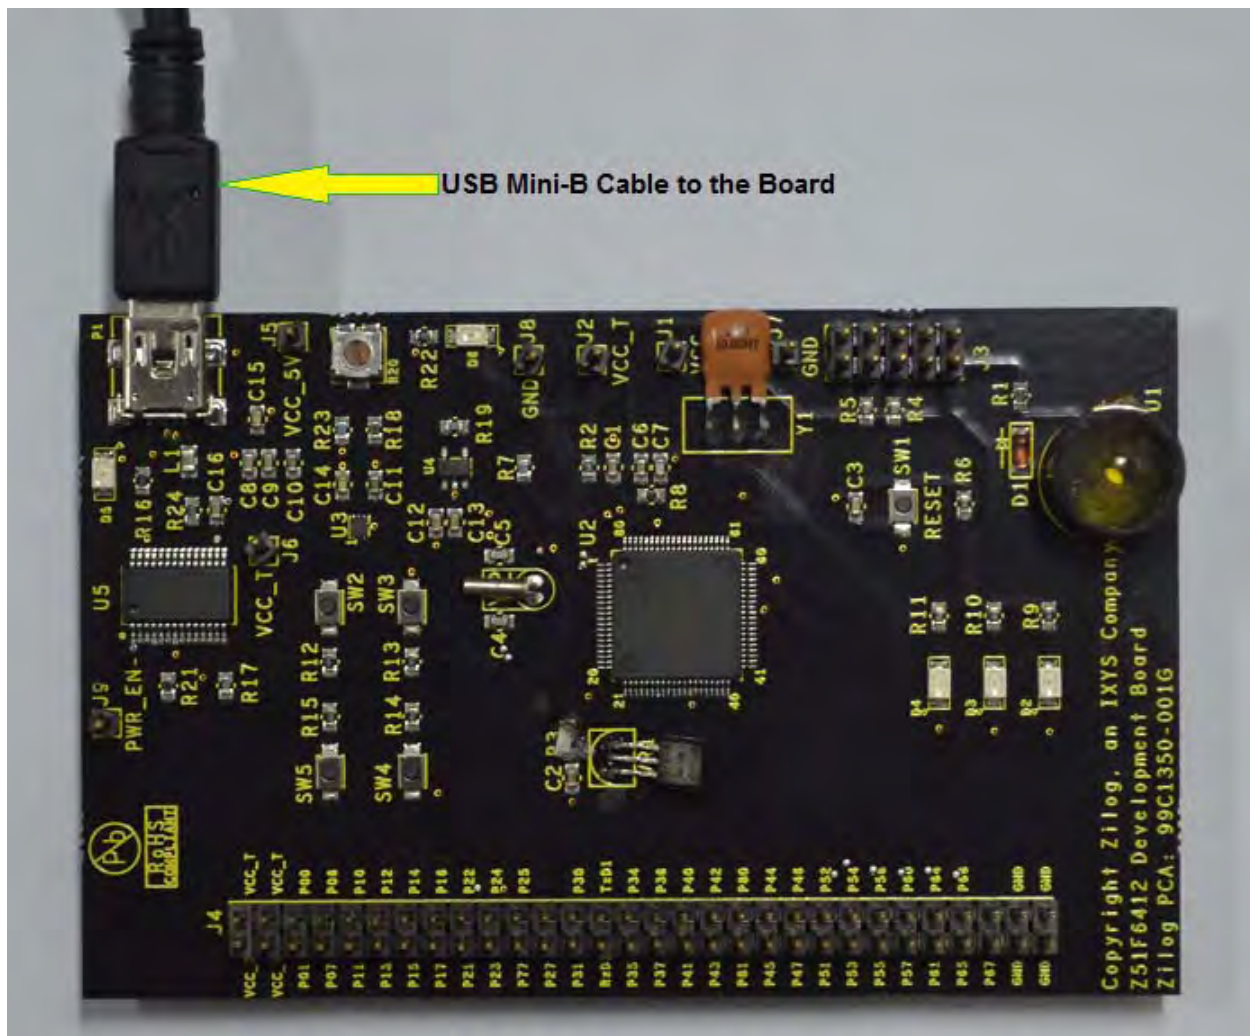

Figure 14. Connecting the USB Mini-B Cable to the Board
5. Connect the other end of this second Mini-B cable to the Z51F6412 Board's P1 connector to apply power to the Board. Note that the green LED D5 is ON; see Figure 14.